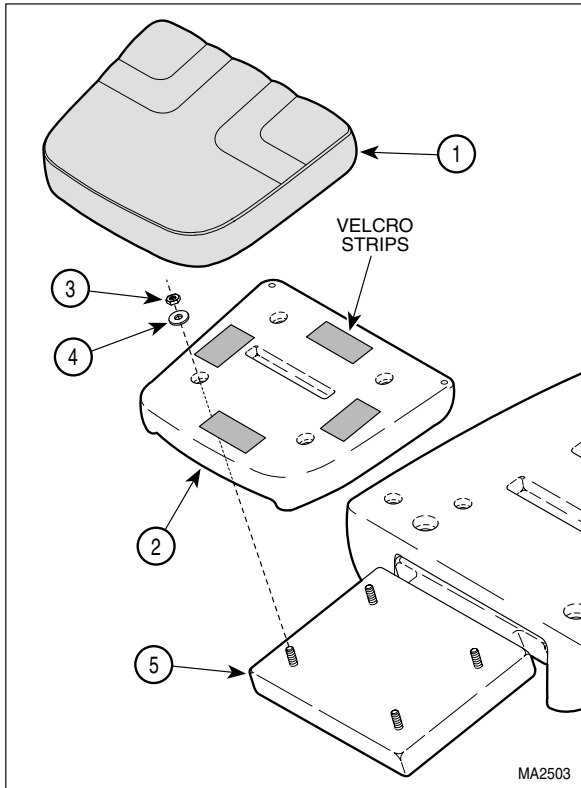

Figure 4-31. Plastic Foot Section
- (1) Remove upholstered foot section (1, Figure 4-31) from plastic foot section (2).
- (2) Remove four nuts (3), washers (4), and plastic foot section (2) from foot section weldment (5).